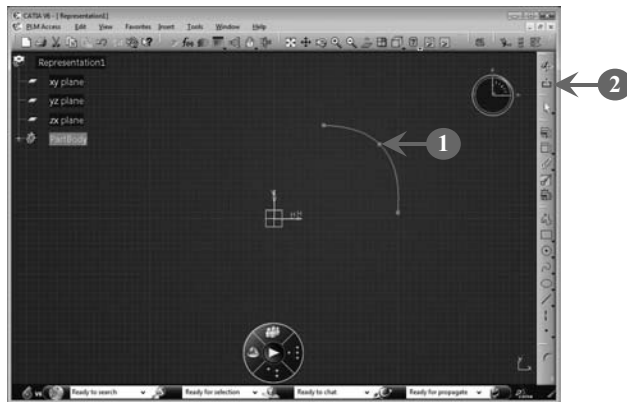

FIGURE 3.31
1. *Create* a curve on which the rib would be formed in the Sketcher workbench. In our case, we create a spline (**Figure 3.31**).
2. *Click* the **Exit workbench** button (☐) in the toolbar of the Sketcher workbench, as shown in Figure 3.31: